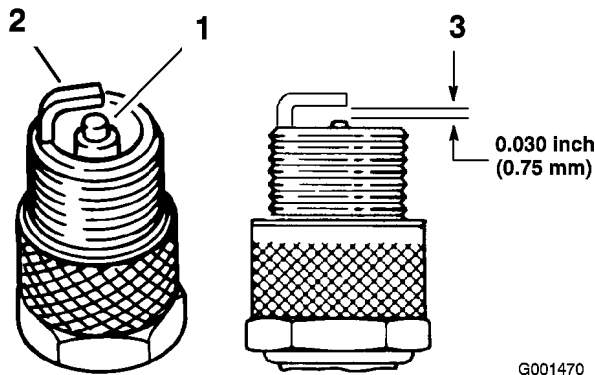

Figure 36
1. Look at the center of the spark plugs (Figure 36). If you see light brown or gray on the insulator, the engine is operating properly. A black coating on the insulator usually means that the air cleaner is dirty.
3. Check the gap between the center and side electrodes (Figure 36). Bend the side electrode (Figure 36) if the gap is not correct.